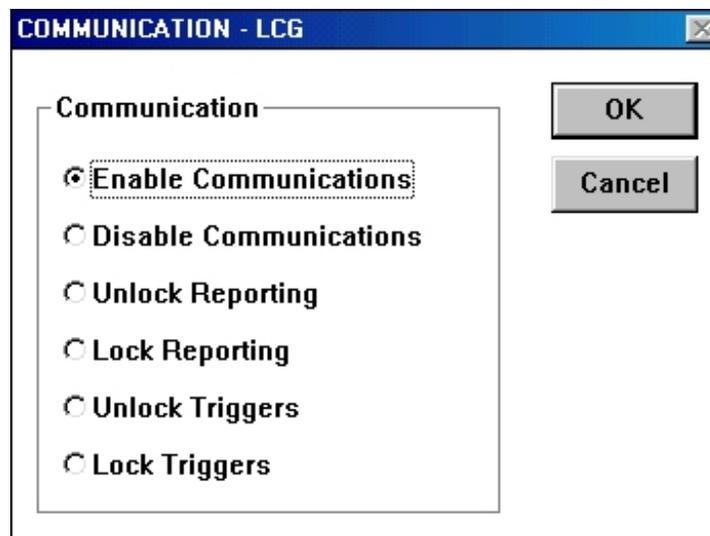

Figure 14: Communication - LCG Dialog Box
1. On the Action menu, click Communication. The Communication-LCG dialog box appears (Figure 14).
1. On the Action menu, click Communication. The Communication - LCG dialog box appears (Figure 14).